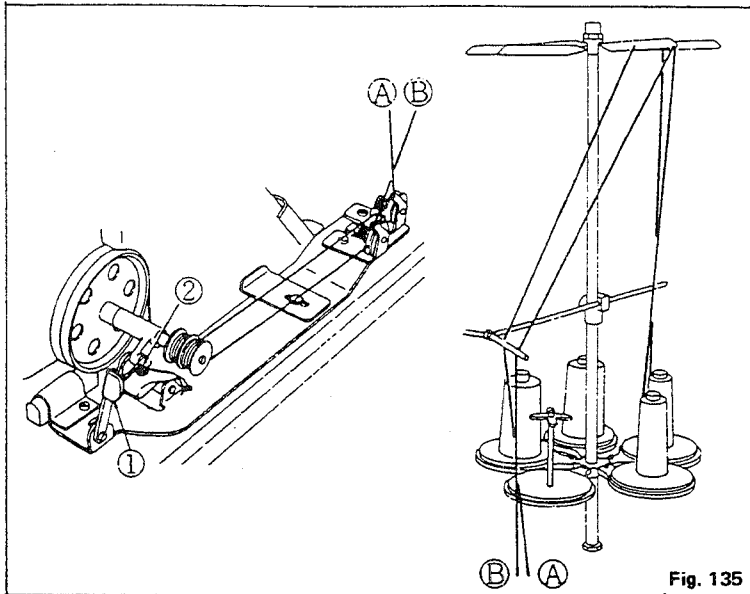

Fig. 135
- ① Put two bobbins into the thread winder shaft as far as they will go.
- ② Thread the winder in the order as illustrated and wind by hand the thread on to each bobbin four or five turns.
- ③ Push in winder thread guide ① .
- ④ The thread winder will automatically stop as soon as it has wound up the bobbins to a predetermined amount.
It is recommendable to wind the bobbin about 80% of its full capacity with the cotton thread or 60 to 70% with the synthetic thread. This can be adjusted by tightening screw ② (Fig. 135) to increase or loosening to reduce the amount of thread to be wound.